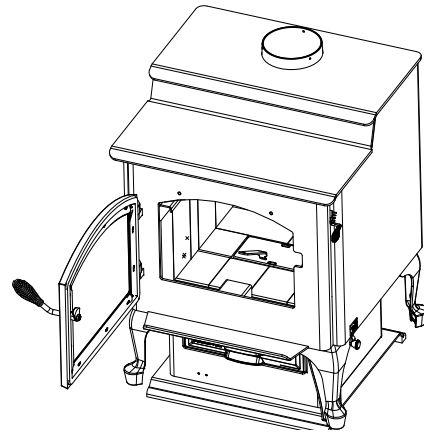

Figure 17.2
- a. Clean ash through the ash removal system channel into the drawer below (**Figure 17.2**).